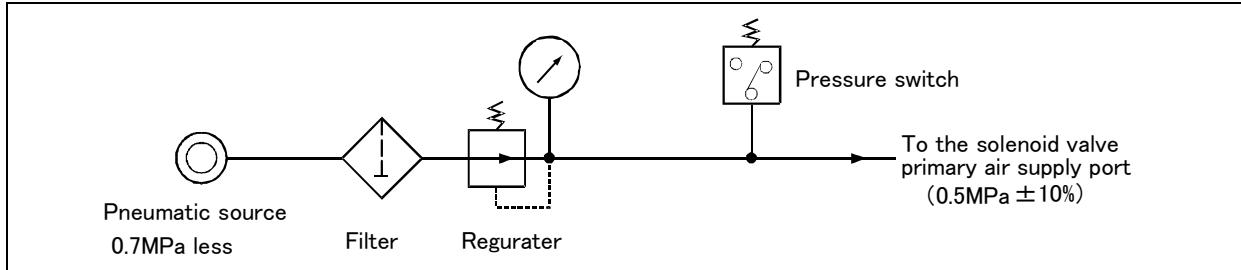

Fig.2-14 : Air supply circuit example for the hand
Fig. 2-14 shows an example of pneumatic supply circuitry for the hand.
(1) Place diodes parallel to the solenoid coil.
(2) When the factory pneumatic pressure drops, as a result of the hand clamp strength weakening, there can be damage to the work. To prevent it, install a pressure switch to the source of the air as shown in Fig. 2-14 and use the circuit described so that the robot stops when pressure drops. Use a hand with a spring-pressure clamp, or a mechanical lock-type hand, that can be used in cases where the pressure switch becomes damaged.